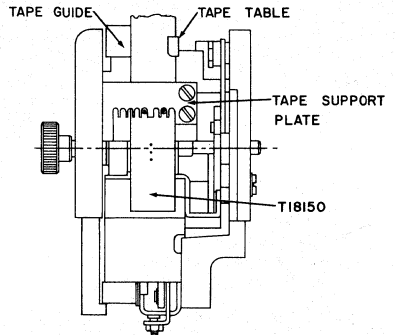

Figure 10
2. Using the pin to pin wheel gauge, T-18150, loosen the tape support plate mounting screws and locate the tape support plate so the guide edge on its under surface touches the right edge of the gauge. Be sure that the tape support plate is straight on the reader. Tighten the mounting screws (Figure 10).